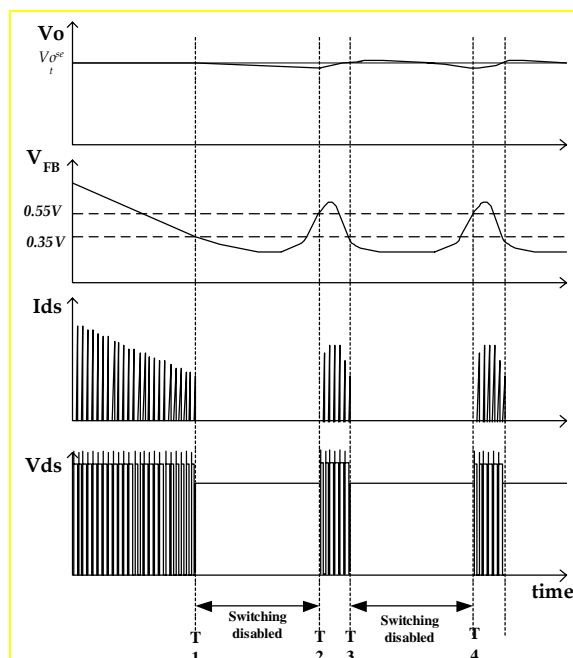

Figure 10. Burst mode operation
6. Burst operation: In order to minimize power dissipation in standby mode, the FPS enters burst mode operation. As the load decreases, the feedback voltage decreases. As shown in Figure 10, the device automatically enters burst mode when the feedback voltage drops below V_{BURL} (350mV). At this point switching stops and the output voltages start to drop at a rate dependent on standby current load. This causes the feedback voltage to rise. Once it passes V_{BURH} (550mV) switching resumes. The feedback voltage then falls and the process repeats. Burst mode operation alternately enables and disables switching of the power Sense FET thereby reducing switching loss in standby mode.